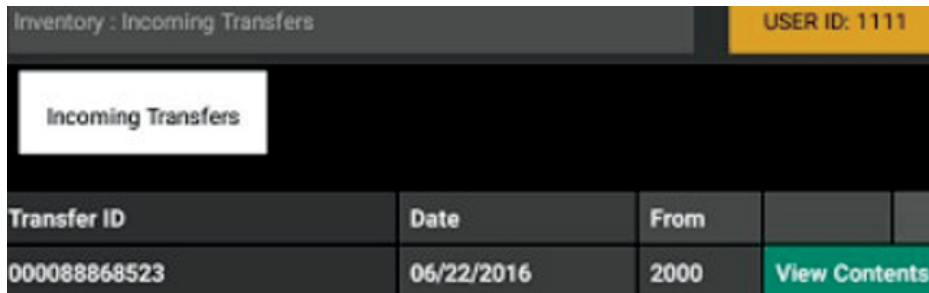

Figure 73
1. Select More >Inventory > Incoming Transfer (Figure 73)